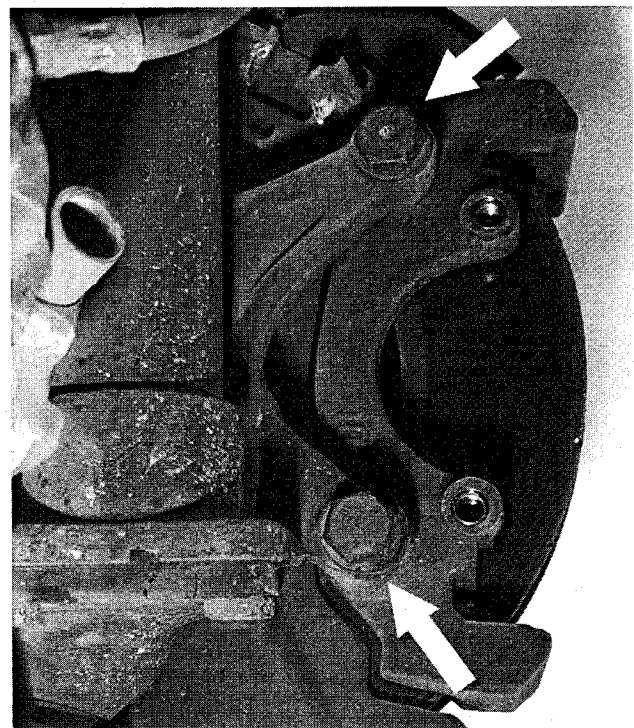

Fig. 8. Front brake pad carrier mounting bolts (arrows). Rear caliper mounting bolts are similar.
3. Remove caliper mounting bolts from steering arm (front caliper) or from trailing arm (rear caliper). See Fig. 8.